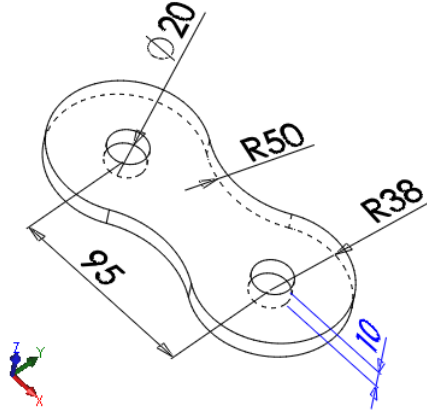

Fig.2. Conveyor Link
2. (15 points) Check the validity of conveyor link BREP model in Fig.2 by using Euler-Poincare equation: $F-E+V-L=2(B-G)$.